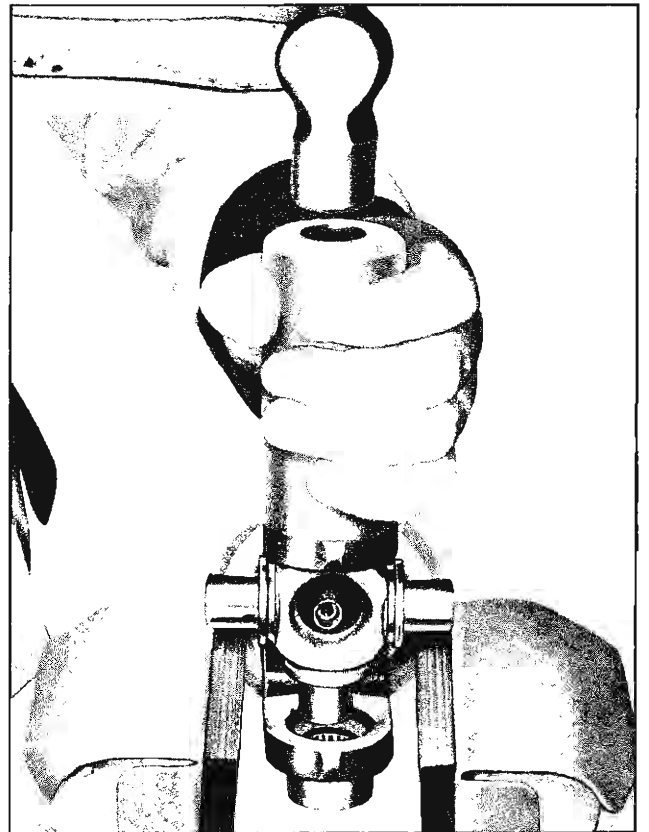

Fig. 4-11 Removing Bearing from Yoke
4. Using a piece of pipe  $1\frac{1}{8}$ " I.D. or tool J-4774, drive yoke down causing journal (spider) to force bearing partially out of yoke (Fig. 4-11).